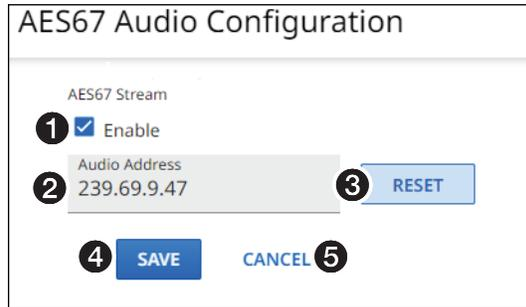

Figure 18. AES67 Pane
If you enable or disable the AES67 stream (see figure 18, ①) or change the audio address setting (②) (either directly or by RESET (③)), the SAVE button (④) becomes selectable. Click **SAVE** to take change or **CANCEL** (⑤) to abandon it. Clicking either button closes the dialog box.